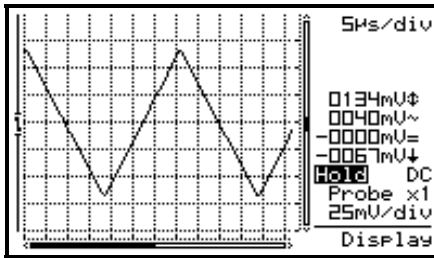

Fig 12
- A full grid divides the screen into reference lines.(Fig. 12)